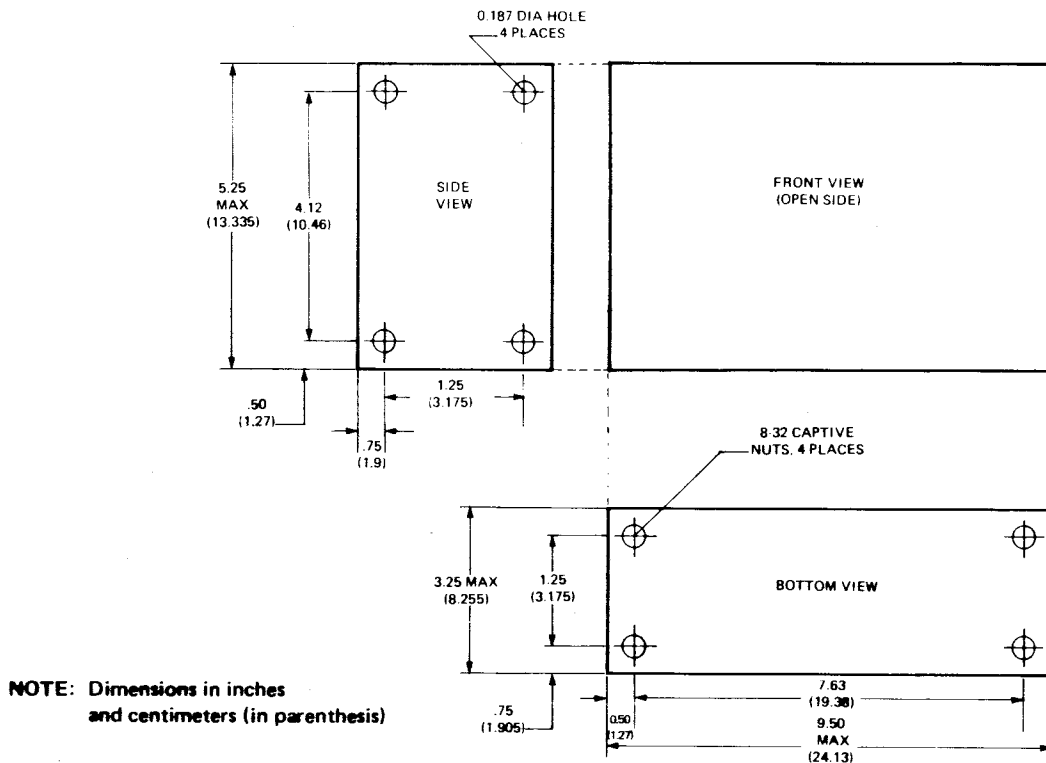
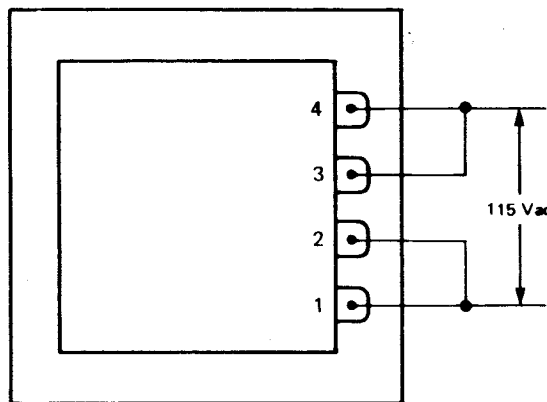

FIGURE 1. MOUNTING DIMENSIONS (IN INCHES)
FIGURE 2. TRANSFORMER CONNECTIONS FOR 115 VAC OPERATION
Mounting hole dimensions are shown in Figure 1. Connect line voltages to the transformer input terminals as shown in Figures 2 and 3. Line voltages attach to the outside transformer terminals 1 and 4. Jumpers are attached as shown:
- Transformer jumpers for 115 Vac line are shown in Figure 2.
1. Check primary connections with Figures 2 and 3 before applying power.